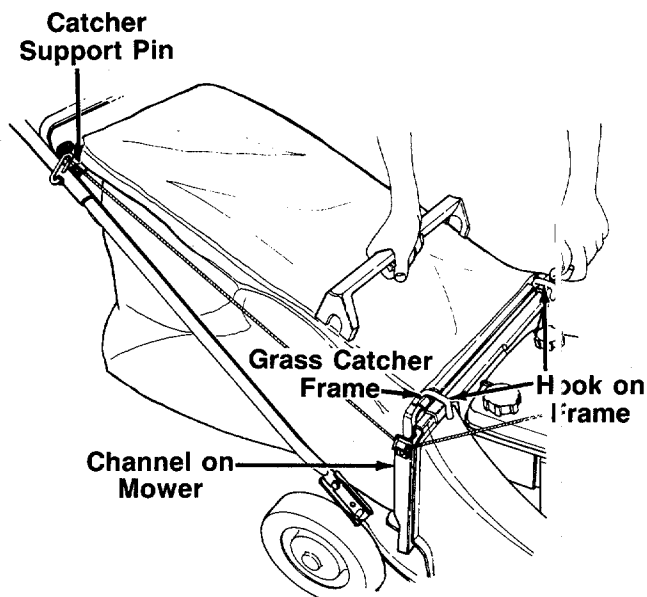

FIGURE 10.
1. Hold the chute door on the catcher panel open as shown in figure 10.
2. Slide the frame of the grass catcher down into the channels on each side of the mower. The hooks on the frame go over the panel on the discharge chute. Make certain the rear of the grass catcher frame is resting on the catcher support pins. See figure 10.